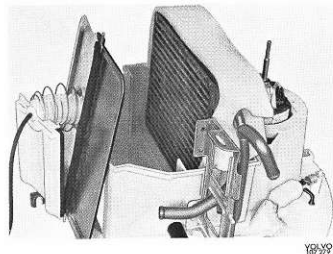

Fig. 8-76. Placing cell assembly
8. Place the new cell assembly with insulation in position in the right half of the central unit (Fig. 8-76).